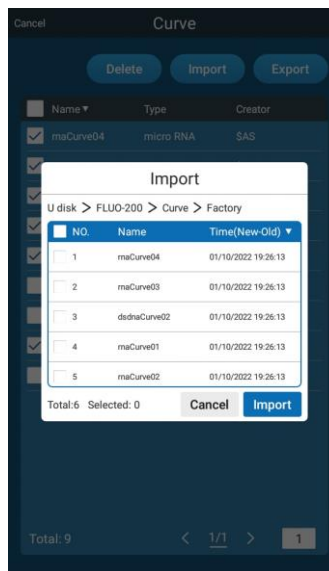

Fig 5.6.05 Importing Curve(s)
-  : Import curve(s) from a USB drive to the instrument (Fig. 5.6.05).